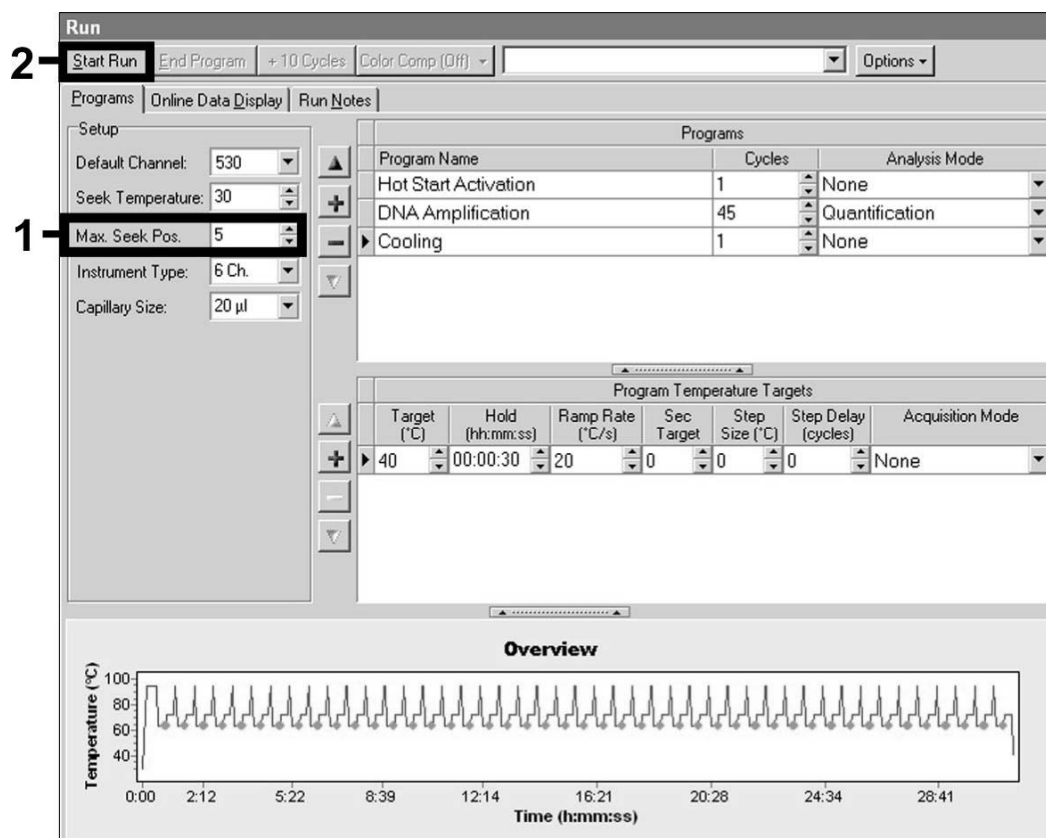

Fig. 6: Start of the PCR run.
Make sure that you first enter the number of capillaries prepared for this PCR run (*Max. Seek Pos.*, see Fig. 6).
- In order to start the PCR run, change to the field *Run* and activate the function *Start Run* (see Fig. 6). The PCR programme will start after entering the location, where the data should be saved.